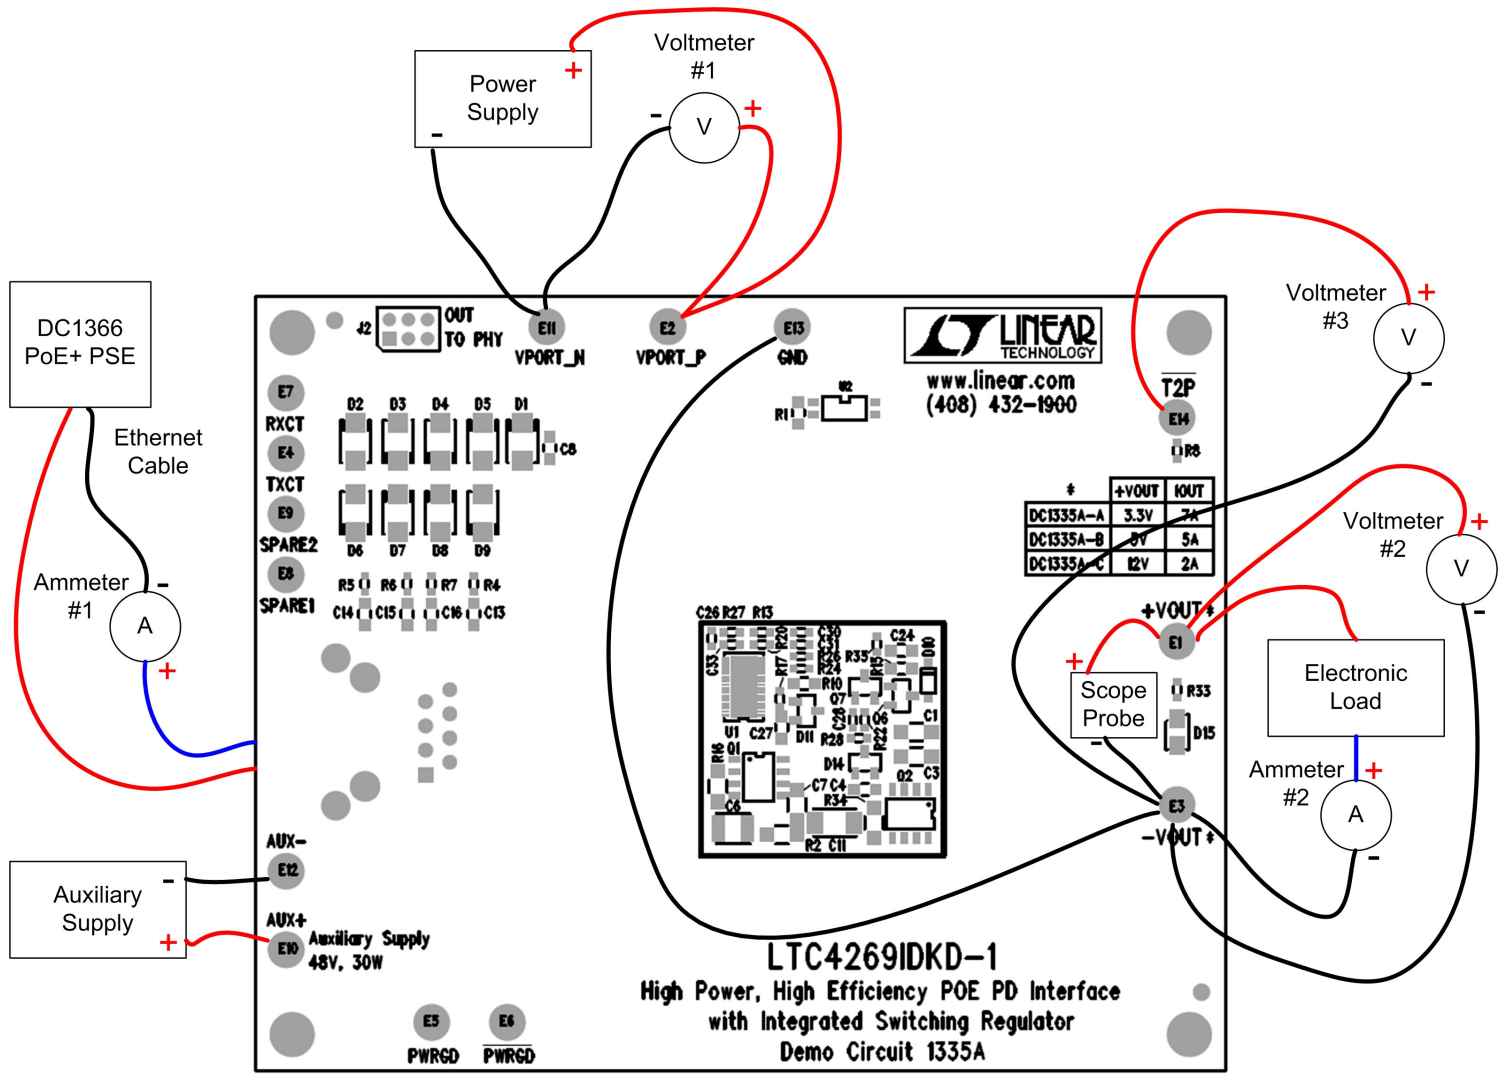

Figure 1. Proper Measurement Equipment Setup
Demonstration circuit 1335A-A is easy to set up to evaluate the performance of the LTC4269IDKD-1 in a PoE+ PD application. Refer to Figure 1 for proper equipment setup and follow the procedure below:
- a. Connect a PoE+ capable PSE with a CAT-5 cable to the RJ45 connector, J1. See Figure 1.
- b. Or, connect a 37V to 57V capable power supply ("Power Supply" in Figure 1) across VPORT_P and VPORT_N.
- c. If evaluating the auxiliary power supply ("Auxiliary Supply" in Figure 1) capability, connect a 44V to 57V capable power supply across AUX+ to AUX-.